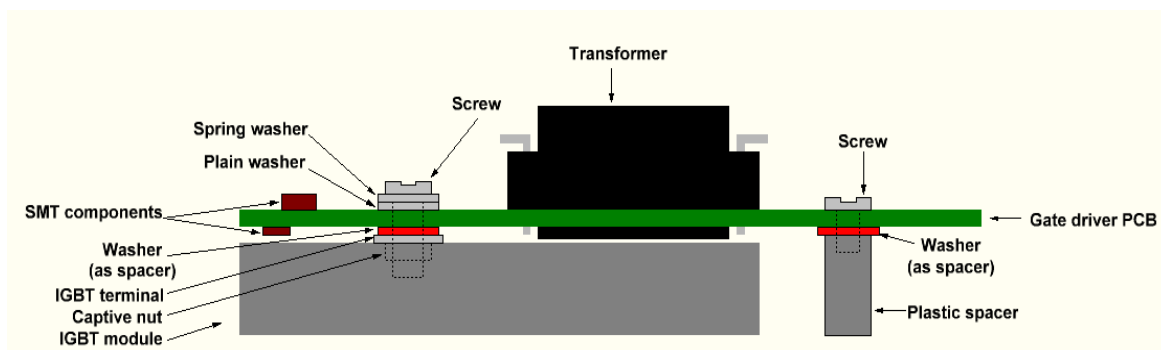

Figure 1. Mounting recommendation of the gate driver
- ✓ To avoid transformer and bottom side components collision with the IGBT package it is recommended to use washers between driver and module, as shown in Fig.1. The same washer must be mounted under the plastic spacer or the plastic spacer length must be adjusted by the corresponding spacer thickness.